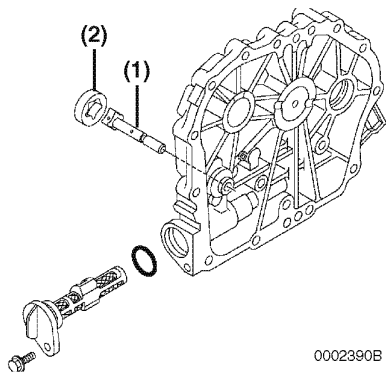

Figure 8-74
8. Remove the inner rotor, shaft assembly (**Figure 8-74, (1)**) and outer (**Figure 8-74, (2)**) rotor from the crankcase cover.